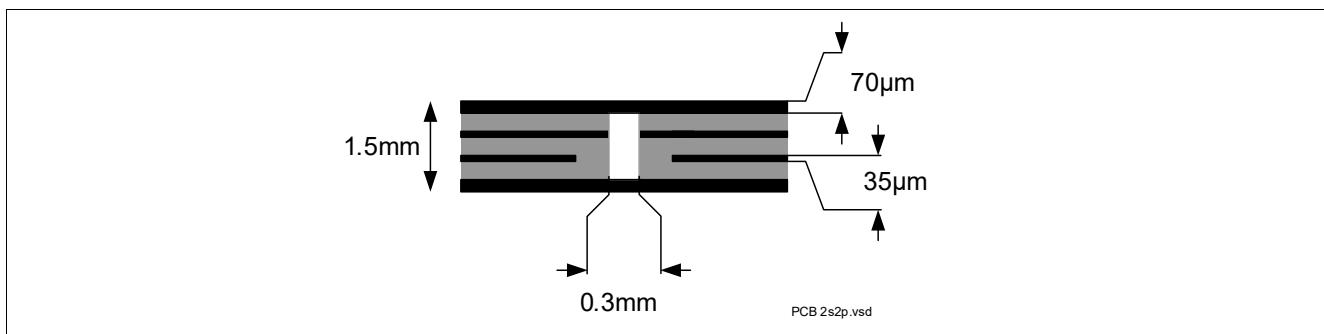

Figure 4 2s2p PCB Cross Section
2) Specified R_{thJA} value is according to JEDEC JESD51-2,-5,-7 at natural convection on FR4 2s2p board with 1 W total power dissipation at $T_A=105^\circ\text{C}$; The product (chip + package) was simulated on a 76.4 x 114.3 x 1.5 mm board with 2 inner copper layers (2 x 70 μm Cu, 2 x 35 μm Cu). Where applicable, a thermal via array under the exposed pad contacts the first inner copper layer. Please refer to Figure 4.